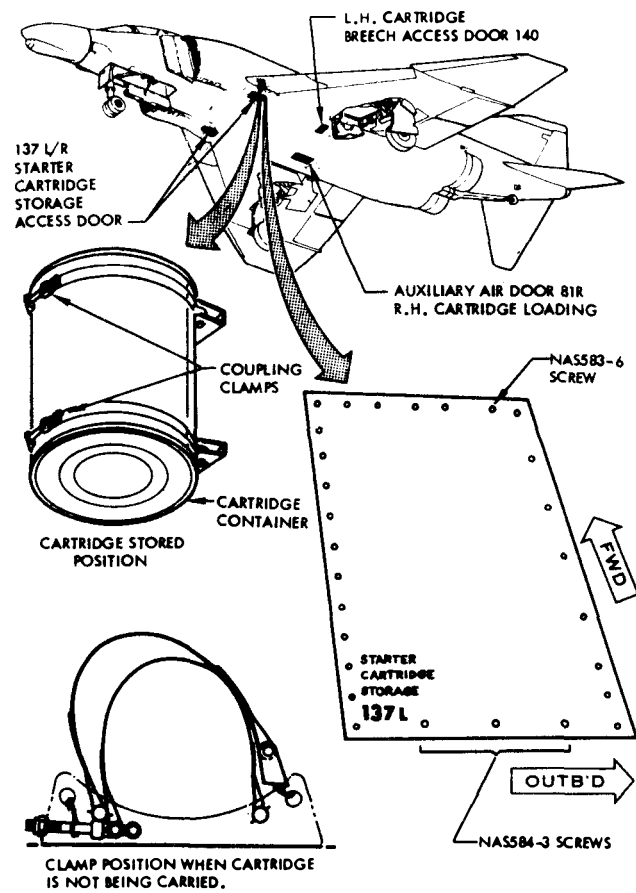

Figure 9-39. Starter Cartridges - Types and Locations
(1) The operational cartridge for the right engine is located in the breech inside the right auxiliary air door (panel 81R) on the right side of the centerline bomb ejection rack. (see figure 9-39)
(2) The operational cartridge for the left engine is located in the breech inside panel 140 located inboard of the left main landing gear wheelwell. (see figure 9-39)
(3) The spare cartridges are located near the root of each leading wing edge under panels 137L & R. (see figure 9-39)